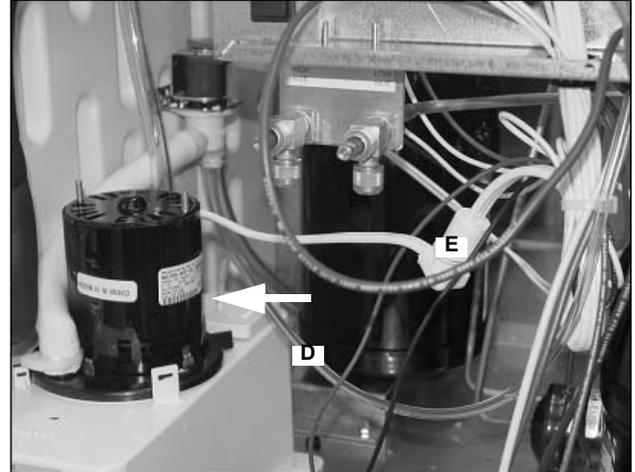

FIGURE 56
60. Connect the pressure transducer tube (D) to the water pan.
Connect the water pump motor harness (E) (FIGURE 56).